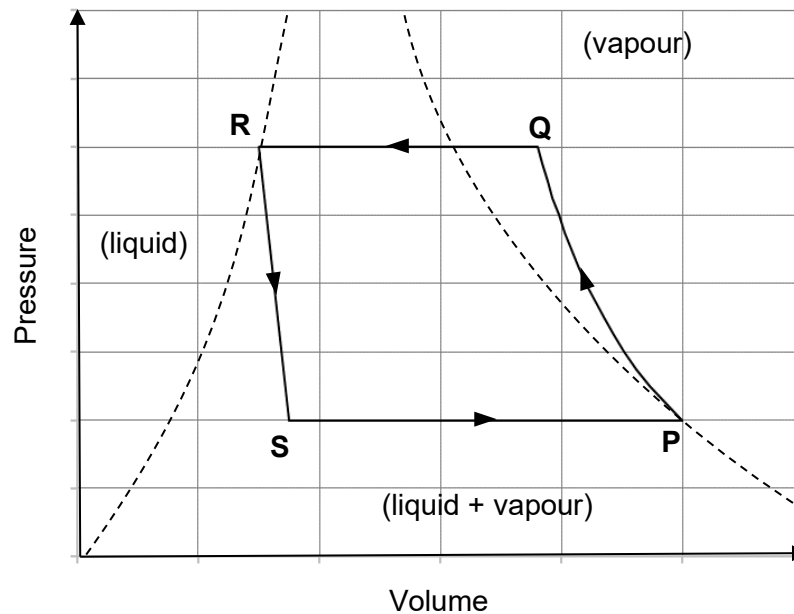

Fig. 8.1
Fig. 8.1 is a pressure vs volume graph showing the refrigerant cycling through four states P, Q, R and S. The four phases of the cyclic process are evaporation, condensation, compression and throttling (pressure releasing).
- (a) Using the information provided in Fig. 8.1, match each phase in the cycle with its description in the chart below. P→Q has been matched.
(c) By referring to Fig. 8.1, identify the state (P, Q, R or S) at which the refrigerant is a saturated vapour, and another at which it is a saturated liquid.